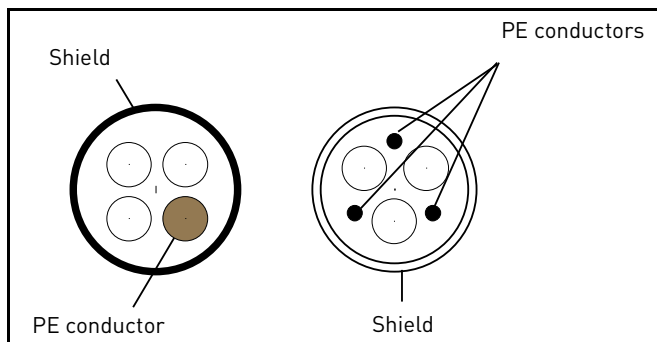

Figure 18. Example with three-phase cable.
- 2 = Symmetrical power cable equipped with concentric protection wire and intended for the specific mains voltage. (MCMK or similar recommended). See Figure 18.
- 3 = Symmetrical power cable equipped with compact low-impedance shield and intended for the specific mains voltage. [MCCMK, EMCCK or similar recommended; Recommended cable transfer impedance (1...30MHz) max. 100mohm/m]. See Figure 18.